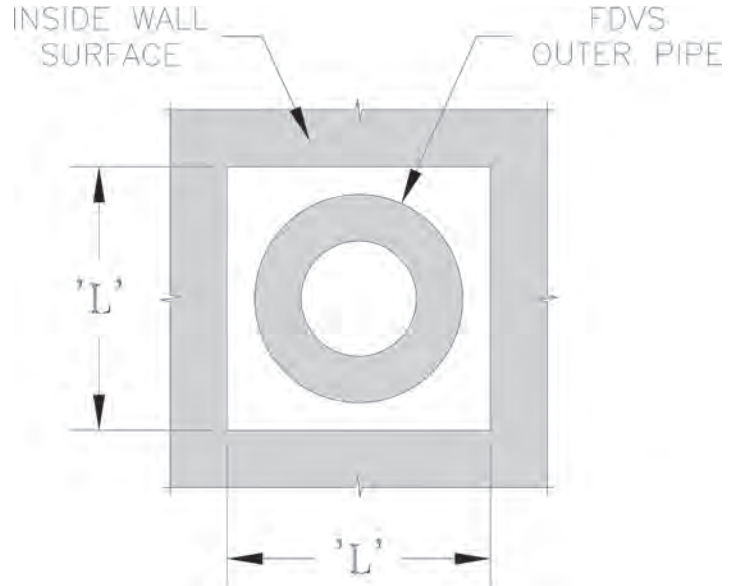

Figure 14: Wall Cutout Dimensions
5. After determining the location of the venting system termination, cut the square hole in the wall sized according to “L” dimension in Table 4, see Figure 14.